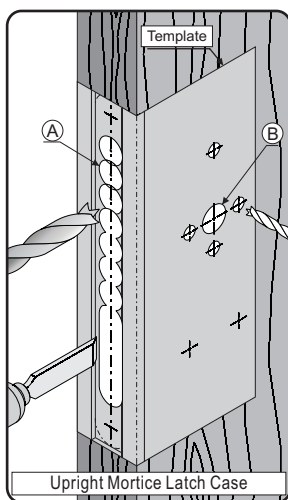

Fig. 2
- 9- Replace lock and mark 2 fixing holes to suit screws supplied. See Fig 2.